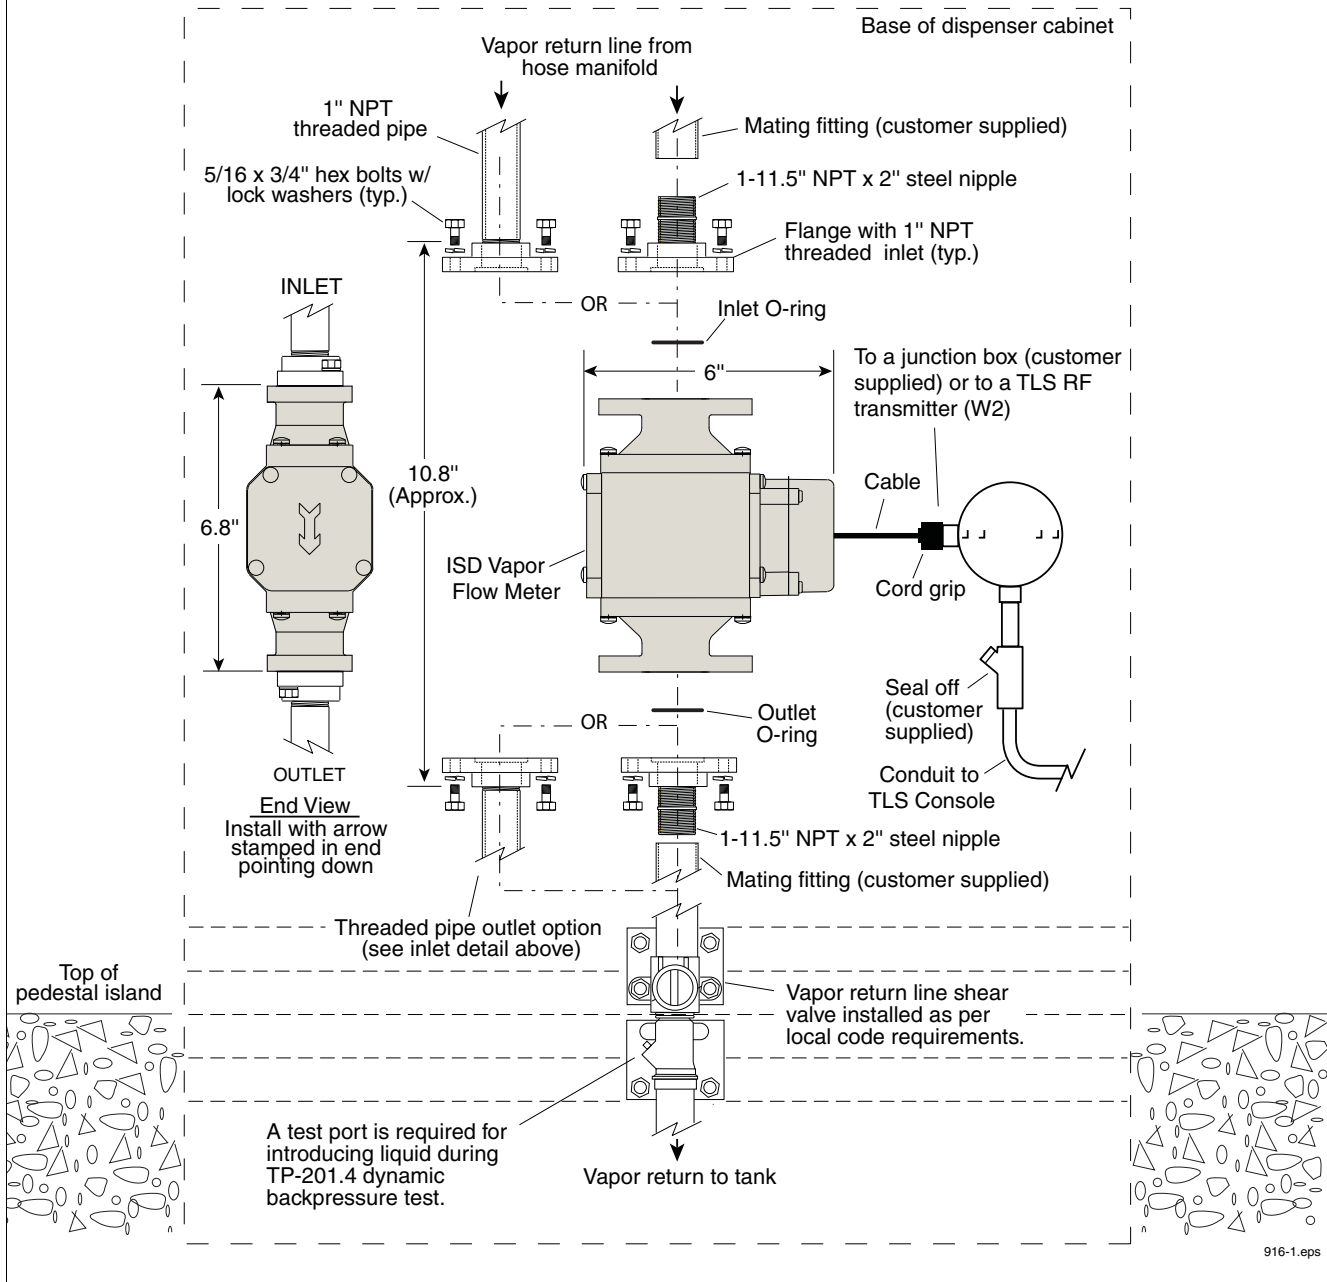

Figure 1. Example Vapor Flow Meter Installation Above Shear Valve
4. Disconnect the factory installed vapor return plumbing from the vapor shear valve (see Figure 1).